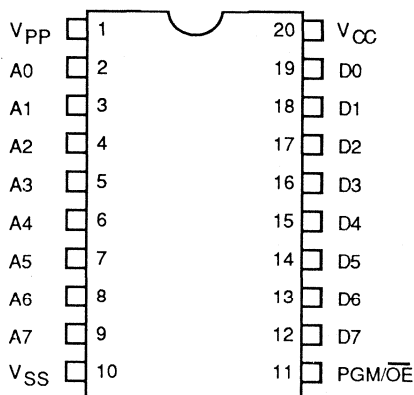

Figure 1. CPL20 Programming Pin Configuration
The pin configuration for programming the CPL 20 series parts is given in Figure 1. Notice that pin 1 is now called V_{pp}. It is raised to a programming voltage, V_{pp}, during programming (see Table 1). In this mode, pins 2 - 9 are used for addressing each location to be programmed and pins 12 - 19 are used for supplying data. Pin 11, the PGM/~OE pin, is the READ/WRITE pin in the programming mode. When it is raised to the programming voltage, V_{pp}, a write occurs and the data on the output pins is written into the addressed array locations. When it is switched to a logic LOW, a read occurs and the contents of the addressed locations can be checked or verified. When pin 11 is switched to a logic HIGH, the device is inhibited and the outputs go into a high impedance (Z) state.